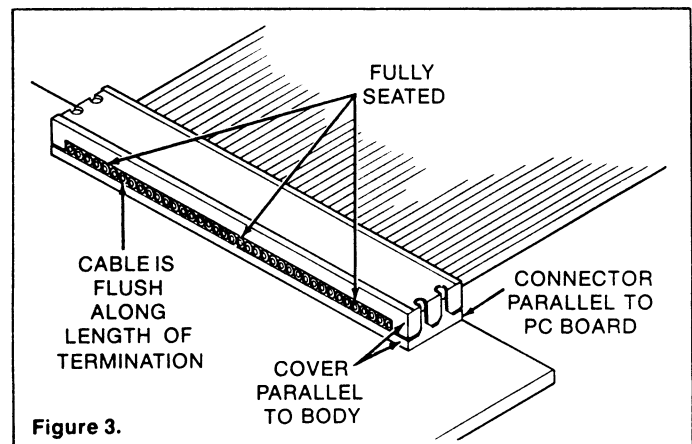

Figure 3.
9. Visually inspect to insure that: (Figure 3)